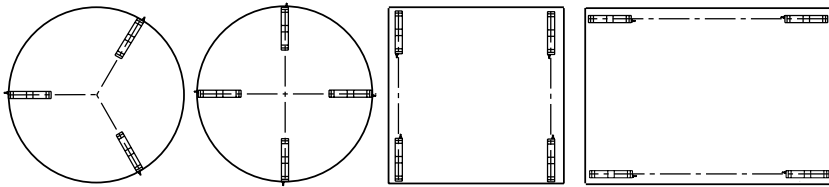

Figure 1 Figure 2 Figure 3 Figure 4
1. Determine where to position the mount and in which direction it should be oriented. The preferred mounting orientation for single ended beams is with the longitudinal axis of the load cell pointing toward the center of the vessel in circular mounting configurations as illustrated in Figures 1 and 2.